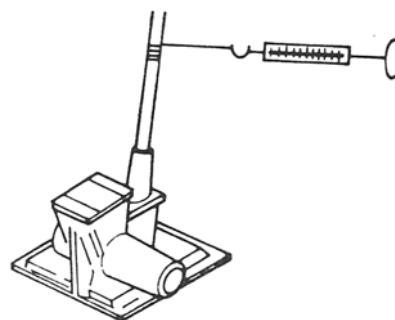

Figure 6
3. Add or remove shims from between the shaft housing and the steering gear housing until the thrust bearing preload meets the specified limit on page 107. The preload is measured with a pull scale and rope on the steering shaft with the sector shaft removed, see Figure 6.